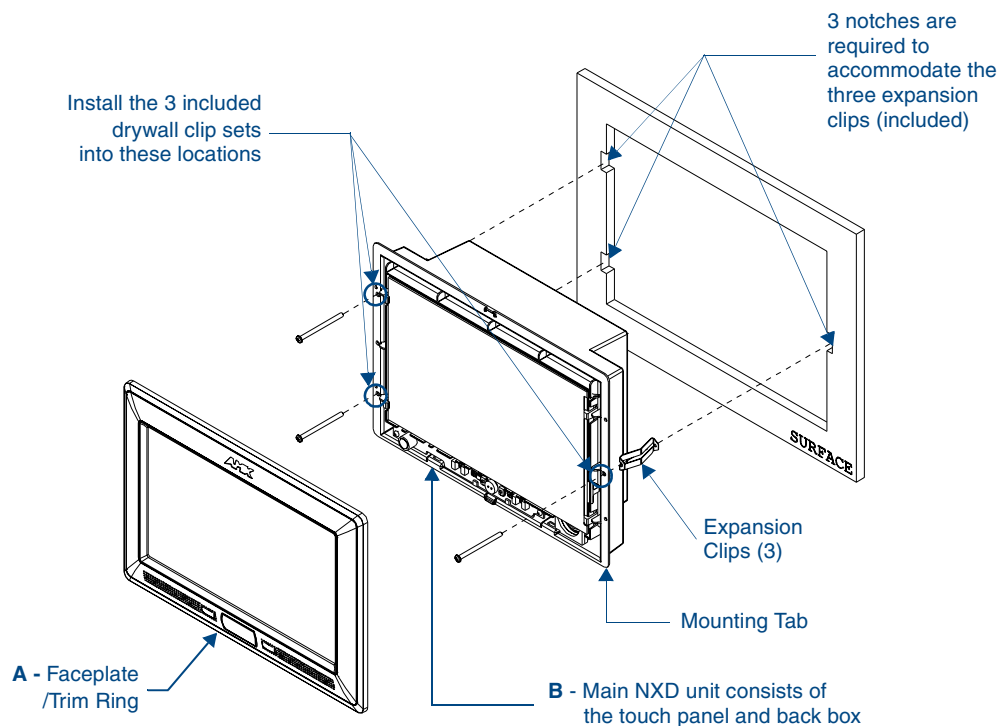

FIG. 23 Wall Mount panel (NXD) installation configuration for drywall surfaces
3. Remove the Faceplate/bezel (A in FIG. 23) from the main NXD unit (B in FIG. 23) by gripping the faceplate and pulling with gentle outward force.
8. Install the three sets of drywall screws and expansion clips into the three oval notch locations along both sides of the main unit (B in FIG. 23).
- 11.** Place the Faceplate/Trim Ring assembly (**A** in FIG. 23) back onto the main NXD unit (**B** in FIG. 23). *Make sure to align the Microphone, Light, and PIR Motion sensor locations to their respective openings on the front faceplate/bezel.*